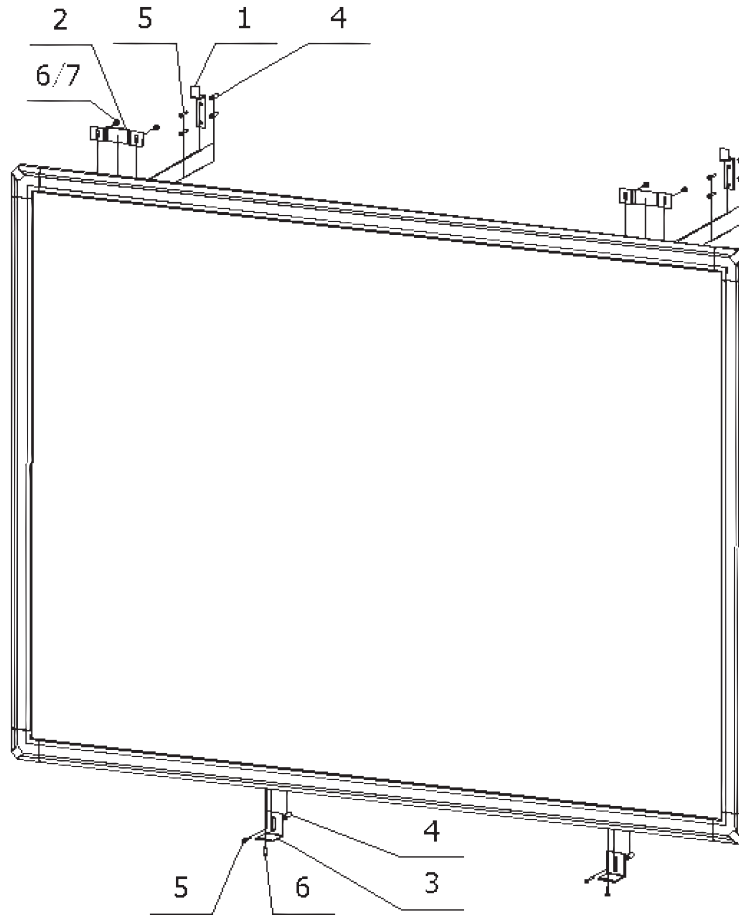

Figure 1 . Wall-mounting brackets
8. Adjust the arrangement of two wall-mounting brackets (item no 3) using two self-tapping screws (item no 6) as shown in Figure 1 to properly mount the whiteboard.